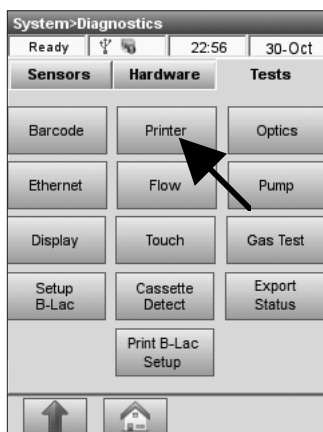

Fig. 8-15 Printer Test
- Press **<Printer>** to start the test (Fig. 8-15).